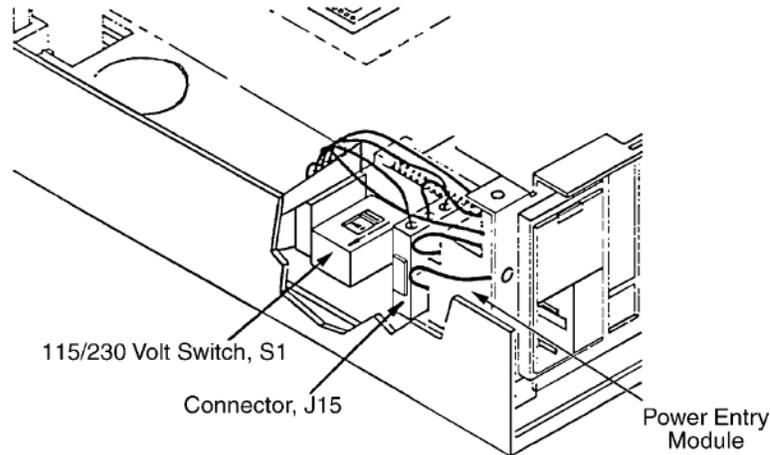

Figure 1-2 Setting Line Voltage
2. Set the line voltage by moving line voltage selector switch S1 (Figure 1-2) to either: